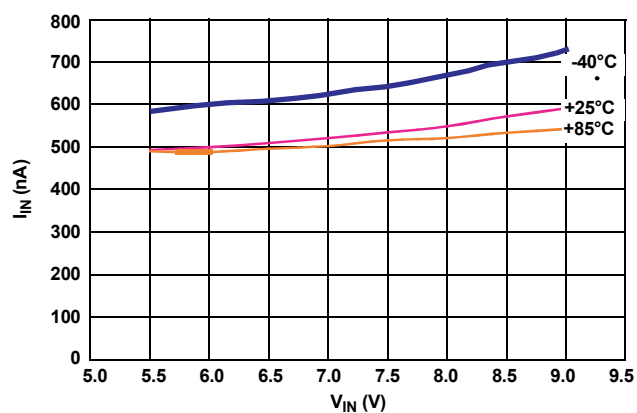

FIGURE 29.  $I_{IN}$  vs  $V_{IN}$
| March 31, 2010    | FN8137.3 | Throughout- Converted to new format. Changes made as follows:Moved "Available Options", "Pin Configuration" and "Pin Descriptions" to page 2Added "Related Literature" on page 1Added key selling feature graphic Figure 1 to page 1Added MSL note to "Ordering Information" table on page 3Added "Boldface limits apply..." note to common conditions of Electrical Specifications tables on page 4 and page 5.Bolded applicable specs. Added Note 12 to MIN MAX columns of all Electrical Specifications tables.Added Latch Up to "Absolute Voltage Ratings" on page 4Added Junction Temperature to "Thermal Information" on page 4Added JEDEC standards used at the time of testing for "ESD Ratings" on page 4Added "Revision History" on page 15 and "About Intersil" on page 16Updated package outline drawing on page 17 to new format by adding land pattern and moving dimensions from table onto drawingRemoved retired devices from "Ordering Information" table on page 3 and "Available Options" on page 2 as follows:X60003BIG3-41T1X60003CIG3-41T1X60003DIG3-41T1X60003BIG3-50T1X60003CIG3-50T1X60003DIG3-50T1Added the following to page 4:"Environmental Operating ConditionsX-Ray Exposure (Note 4).....10mRemNote 4. Measured with no filtering, distance of 10" from source, intensity set to 55kV and 70mA current, 30s duration.Other exposure levels should be analyzed for Output Voltage drift effects. See "Applications Information" on page 10."Thermal Information" on page 4: Changed Theta JA from 202.70 to 375. Added Theta JC of 110 and applicable note (measured at top of package).In Figures 1, 3, 5 and 30, changed the color to Dark Blue (Unit 3), Black (Unit 2), and Dark Green (Unit 1). Changed name of Unit 3 to High, Unit 2 to Typ and Unit 1 to Low.Figure 4. Changed the colors to Dark Blue (85), Black (25), and Dark Green (-40).Figure 29. Increased the Y-axis to 800nA.Added "Handling and Board Mounting" on page 12 |